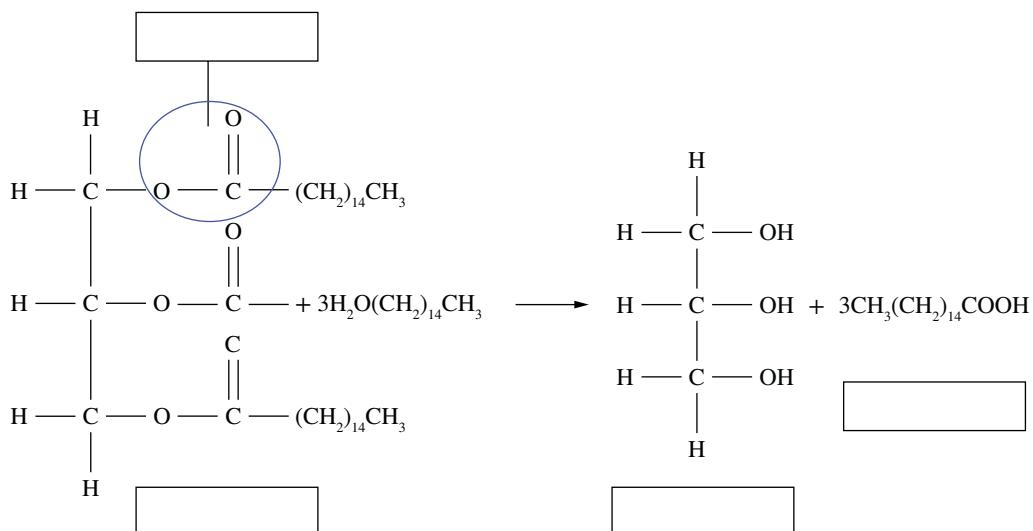

FIGURE 16.5.17 Hydrolysis of a triglyceride.
- 1** Label the parts of the diagram in Figure 16.5.17 showing the hydrolysis of a triglyceride.